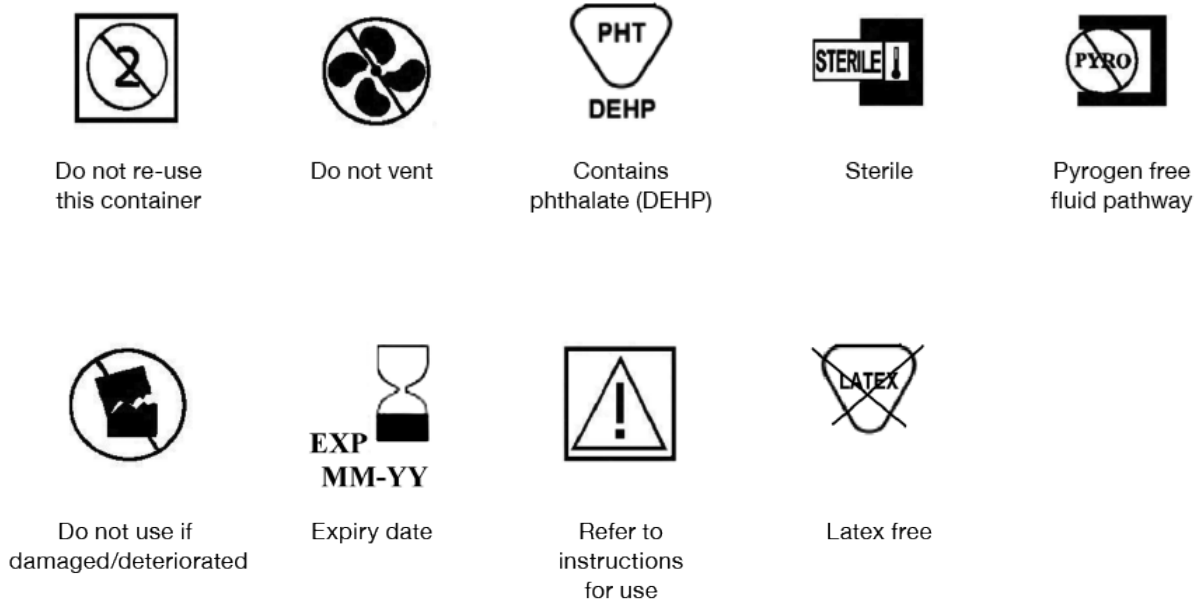

Figure 26.2 Symbols used on blood packs and on critical consumables (ISO 3826-2, ISO 15223-1 and EN 980)
- On all packs the words or approved medical device symbol(s) shown in Figure 26.2:
- Manufacturers should, where appropriate, indicate that the blood pack including its sub-components are latex free. The symbol in Figure 26.2 may be used.